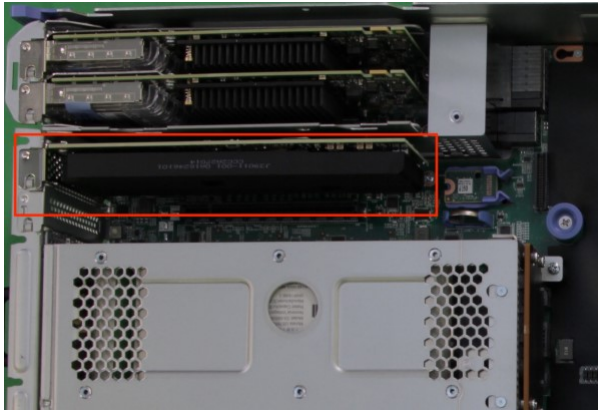

Figure 62. Locating the compression card
5. The compression card is located in adapter slot 3 located closest to adapter cage 1, as shown in Figure 62 on page 102